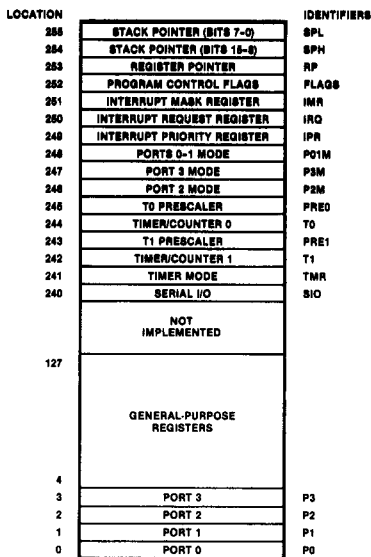

Figure 6. The Register File
**Register File.** The 144-byte register file includes four I/O port registers (R0-R3), 124 general-purpose registers (R4-R127) and 16 control and status registers (R240-R255). These registers are assigned the address locations shown in Figure 6.